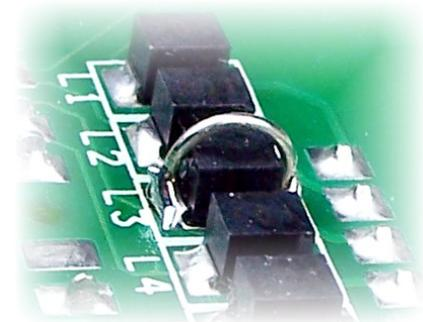

Figure 4. Typical Jumper (See Text).
- If you wish to bypass the ground chokes for the PC OUT, PC IN and PHONES jacks (L3, L5 and L8 on the Audio I/O Module shown above), you can remove the chokes and replace them with short jumpers across the solder pads or you can fashion a wire jumper that goes over the existing choke as shown in Figure 4. The chokes are glued to the board as well as soldered. If you do not have proper tools to remove them safely without damaging the traces on the board, we recommend you use the wire jumpers shown. They are as effective as removing the choke. Be sure the loop passing over the choke does not stand more than 3/16" (4.7 mm) above the board. If it is higher it may strike the transformers on the main KIO3 board.